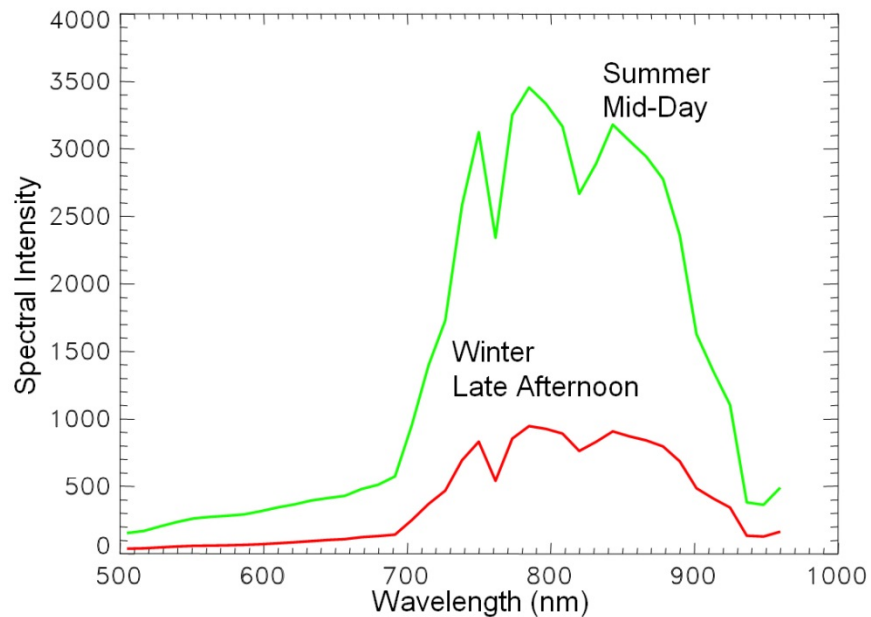
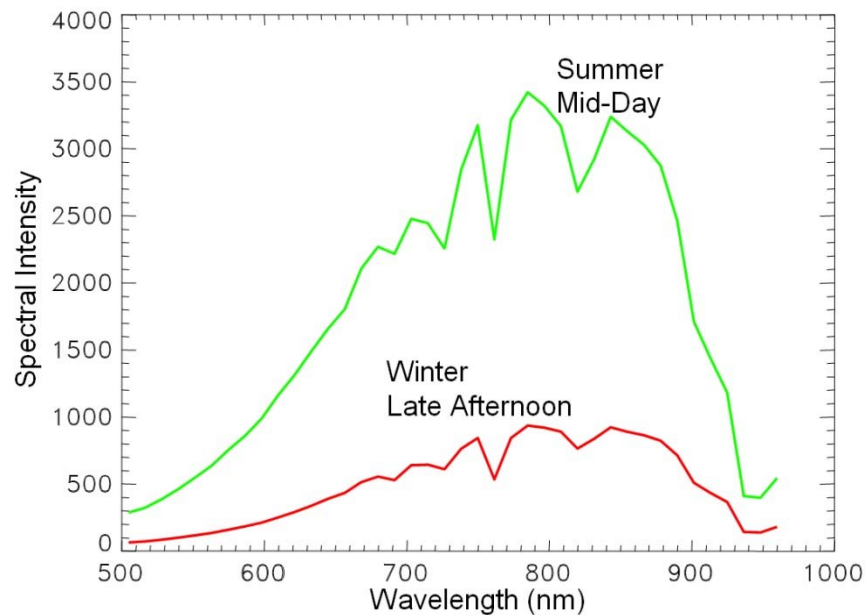

Figure 24. Spectral Intensities for Different Illumination Conditions
Figure 25. Spectral Intensities for Different Illumination Conditions
- *Because the VNIR sensor depends on reflected light, adequate illumination must be available.* For example, missions cannot be flown at night. And, solar illumination is more intense at midday than early morning or late evening. It is also more intense during the summer than in the winter and more intense on sunny days than cloudy days. The different illumination intensities affect the intensity of reflected light, and so also affect the intensity of light measured by the sensor. This is shown below in Figure 24, where the only difference between the two graphs is the time of season and time of day. Note how the reduced illumination causes significant reductions in spectral intensity.
- The natural surroundings in a search area have a significant impact on spectral intensities. Recall that healthy vegetation produces a very broad, high amplitude peak in the near-infrared wavelengths. This is caused by NIR light being scattered into the sensor field of view (path radiance). Dry grass has a different spectral signature, and will cause different path radiance. For example, Figure 25 shows the spectral intensities for a Cessna blue cowling under the same illumination conditions as Figure 24, but the cowling is now surrounded by dry grass.